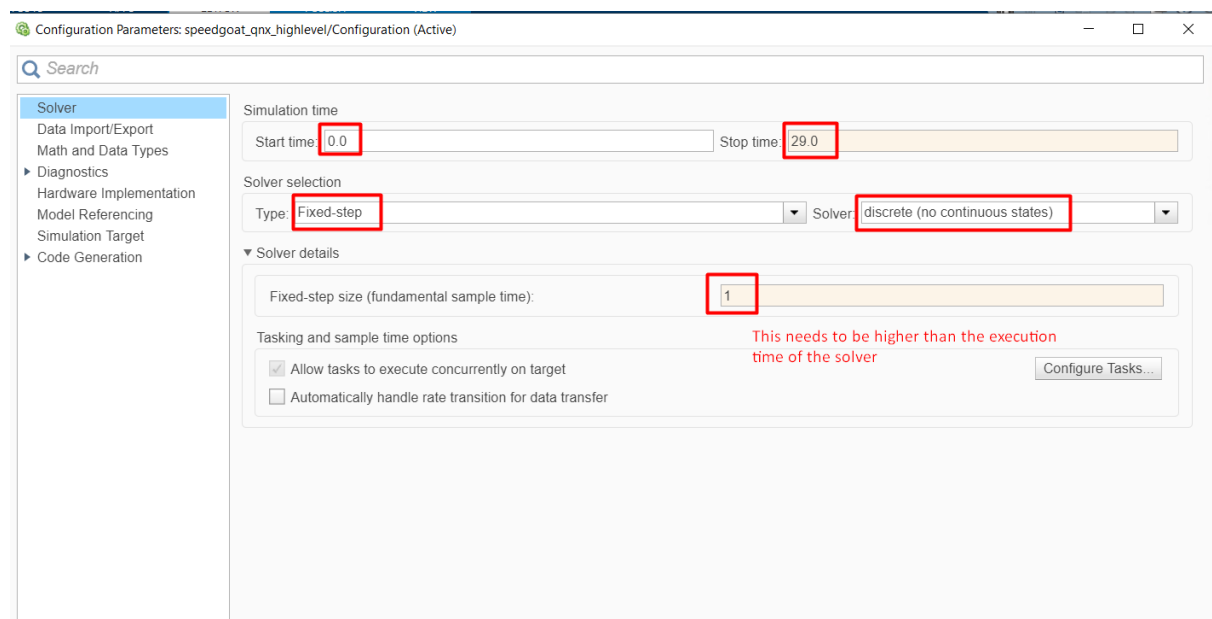

Figure 13.94: Set the Simulink solver options.
8. (Figure 13.94) In the “Solver” tab, set the options: